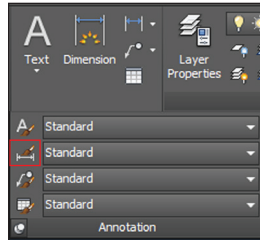

FIGURE 11.2 Accessing the Dimension Style Manager on the ribbon
1. Select the Home tab on the ribbon if it is not already selected. Expand the Annotation panel and click the Dimension Style button (see Figure 11.2).